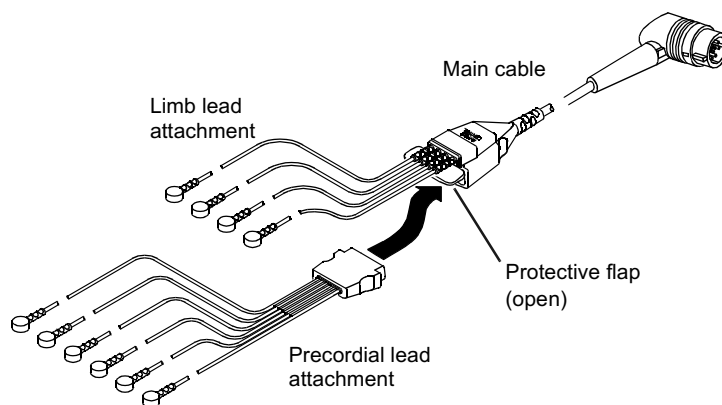

Figure 3-6 12-lead ECG Cable
- 2 Insert the limb lead and the precordial lead attachments into the main cable as shown in Figure 3-6.